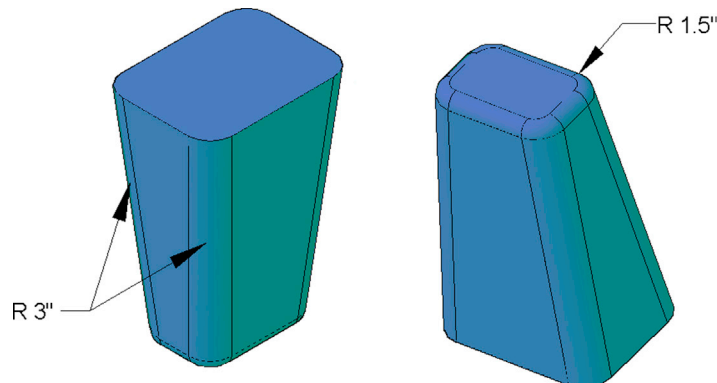

FIGURE 24.20 Wastebasket, Step 3.
Step 3. Fillet the side edges with a 3" radius, and the bottom with a 1.5" radius, as seen in Fig. 24.20.